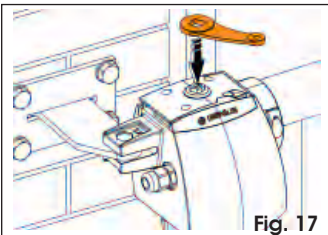

Fig. 17
2. Insert the manoeuvring key in its seat located at the top of the operator (Fig.17).